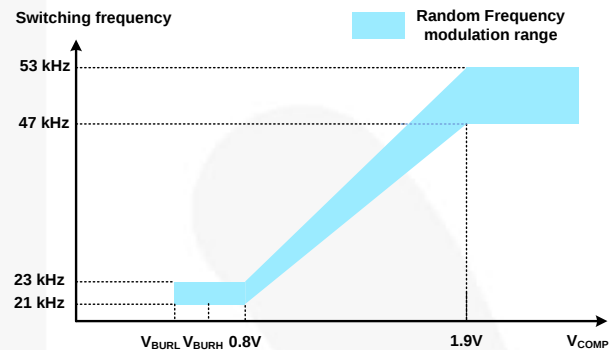

Figure 11. Green Mode Operation
As output load condition is reduced, the switching loss becomes the largest power loss factor. FSL306LR uses the V_{COMP} pin voltage to monitor output load condition. As output load decreases, V_{COMP} decreases and switching frequency declines, as shown in Figure 11. Once V_{COMP} falls to 0.8 V, the switching frequency varies between 21 kHz and 23 kHz before Burst Mode operation. At Burst Mode operation, random frequency fluctuation still functions.
where V_{OUT} is the sum of target output voltage (V_O) and freewheeling diode forward-voltage drop (V_F), as determined by Equation (7), and f_{S,HIGH} is maximum switching frequency in Green Mode operation, as illustrated on Figure 11.